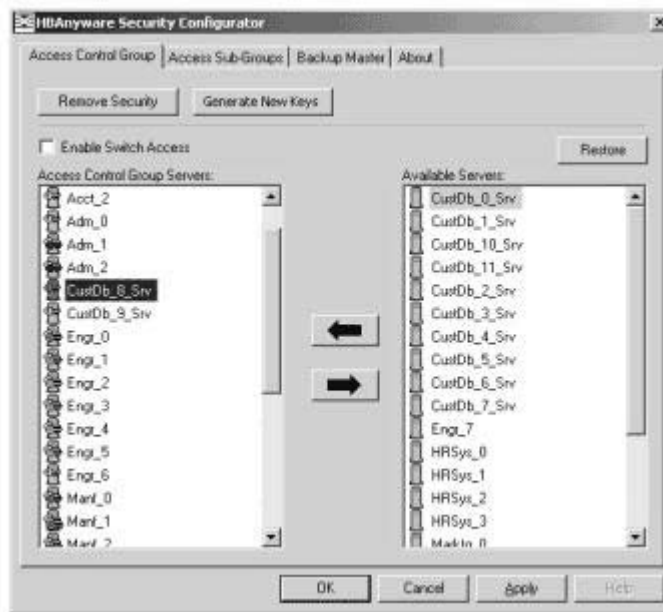

Figure 49: HBAAnyware Security Configurator, Access Control Group Tab on an MSC System
3. Select the unsecured servers that you want to add to the ACG from the Available Servers list (Figure 49).
2. On the **Access Control Group** tab, from the Available Servers list, select the unsecured servers to add to the ACG (Figure 49).
2. On the **Access Control Group** tab, from the Access Control Group Servers list, select the secured systems to delete from the ACG (Figure 49).
1. Start the HBAnyware Security Configurator. The **Access Control Group** tab appears (Figure 49).
1. From the **Access Control Group** tab on the MSC, click the **Restore** button (Figure 49).
2. From the **Access Control Group** tab, check **Enable Switch Access**. (Figure 49).